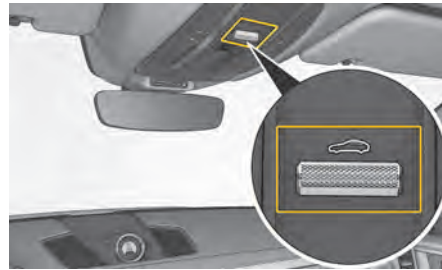

Fig. 167: Opening and closing sunblind
- ▶ Press and hold switch (Fig. 167).
3. Press the button for the sunblind (Fig. 167).